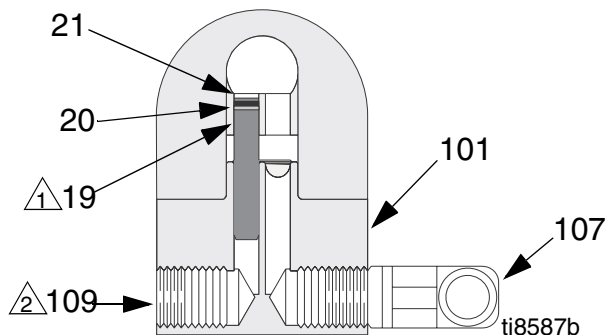

FIG. 1: Non-Circulating Setup Shown (cutaway view)
1. See FIG. 1. Apply anti-seize lubricant to the threads and mating faces of the manifold (101), plug (109), and elbow (107), supplied unassembled.
2. Install an elbow (107) in one fluid port of the manifold (101), and a plug (109) in the other port.
3. Install the internal plug (19) in the gun fluid port on the same side as the manifold plug.
4. Connect the fluid supply line to the fluid inlet elbow (107).
① Remove when used in circulating systems.
② Replace with elbow (107) when used in circulating systems.